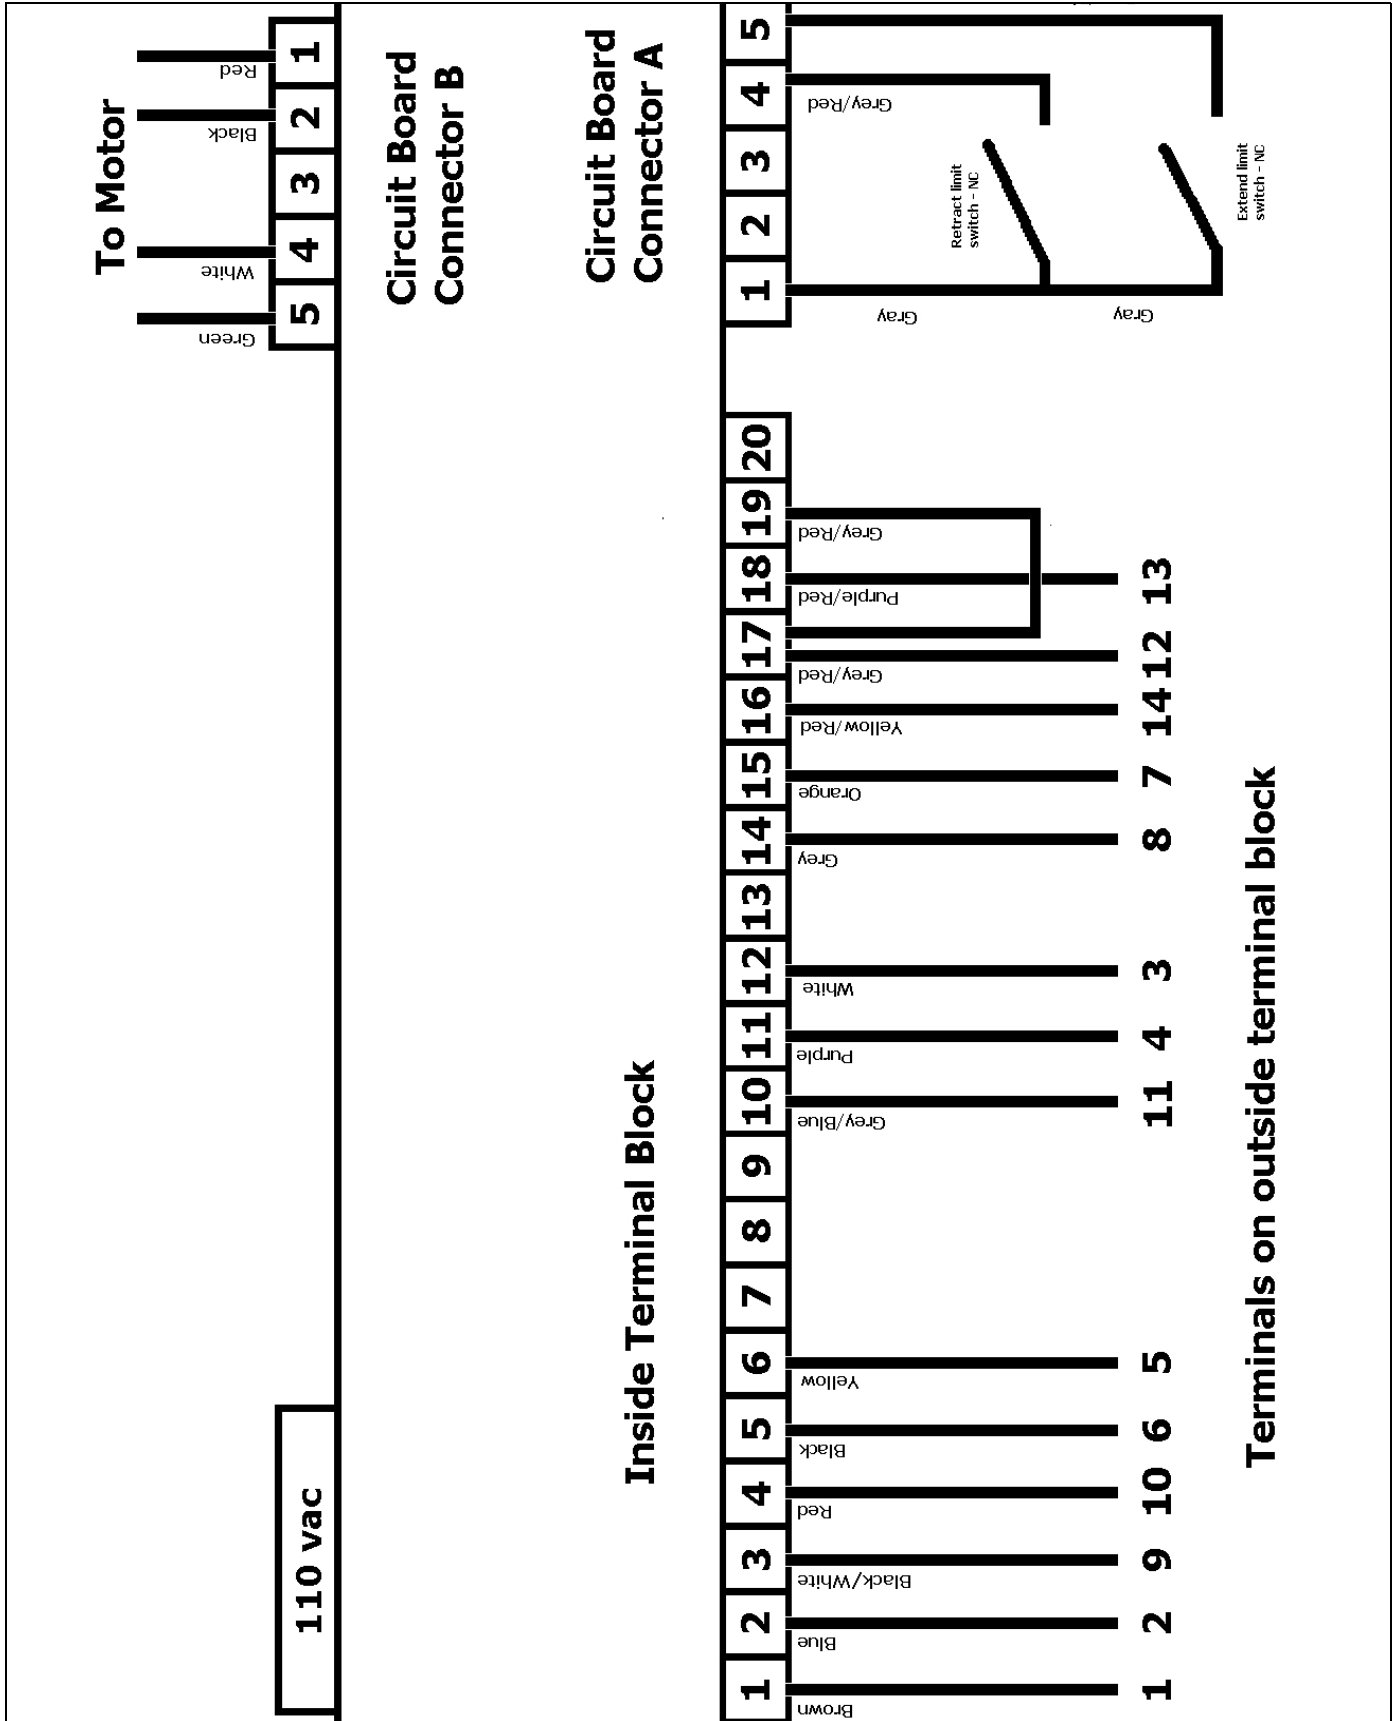

Figure 16
**NOTE:** Refer to Table 2: Terminal Descriptions and (See Figure 16) for terminal descriptions, functions and wiring options.